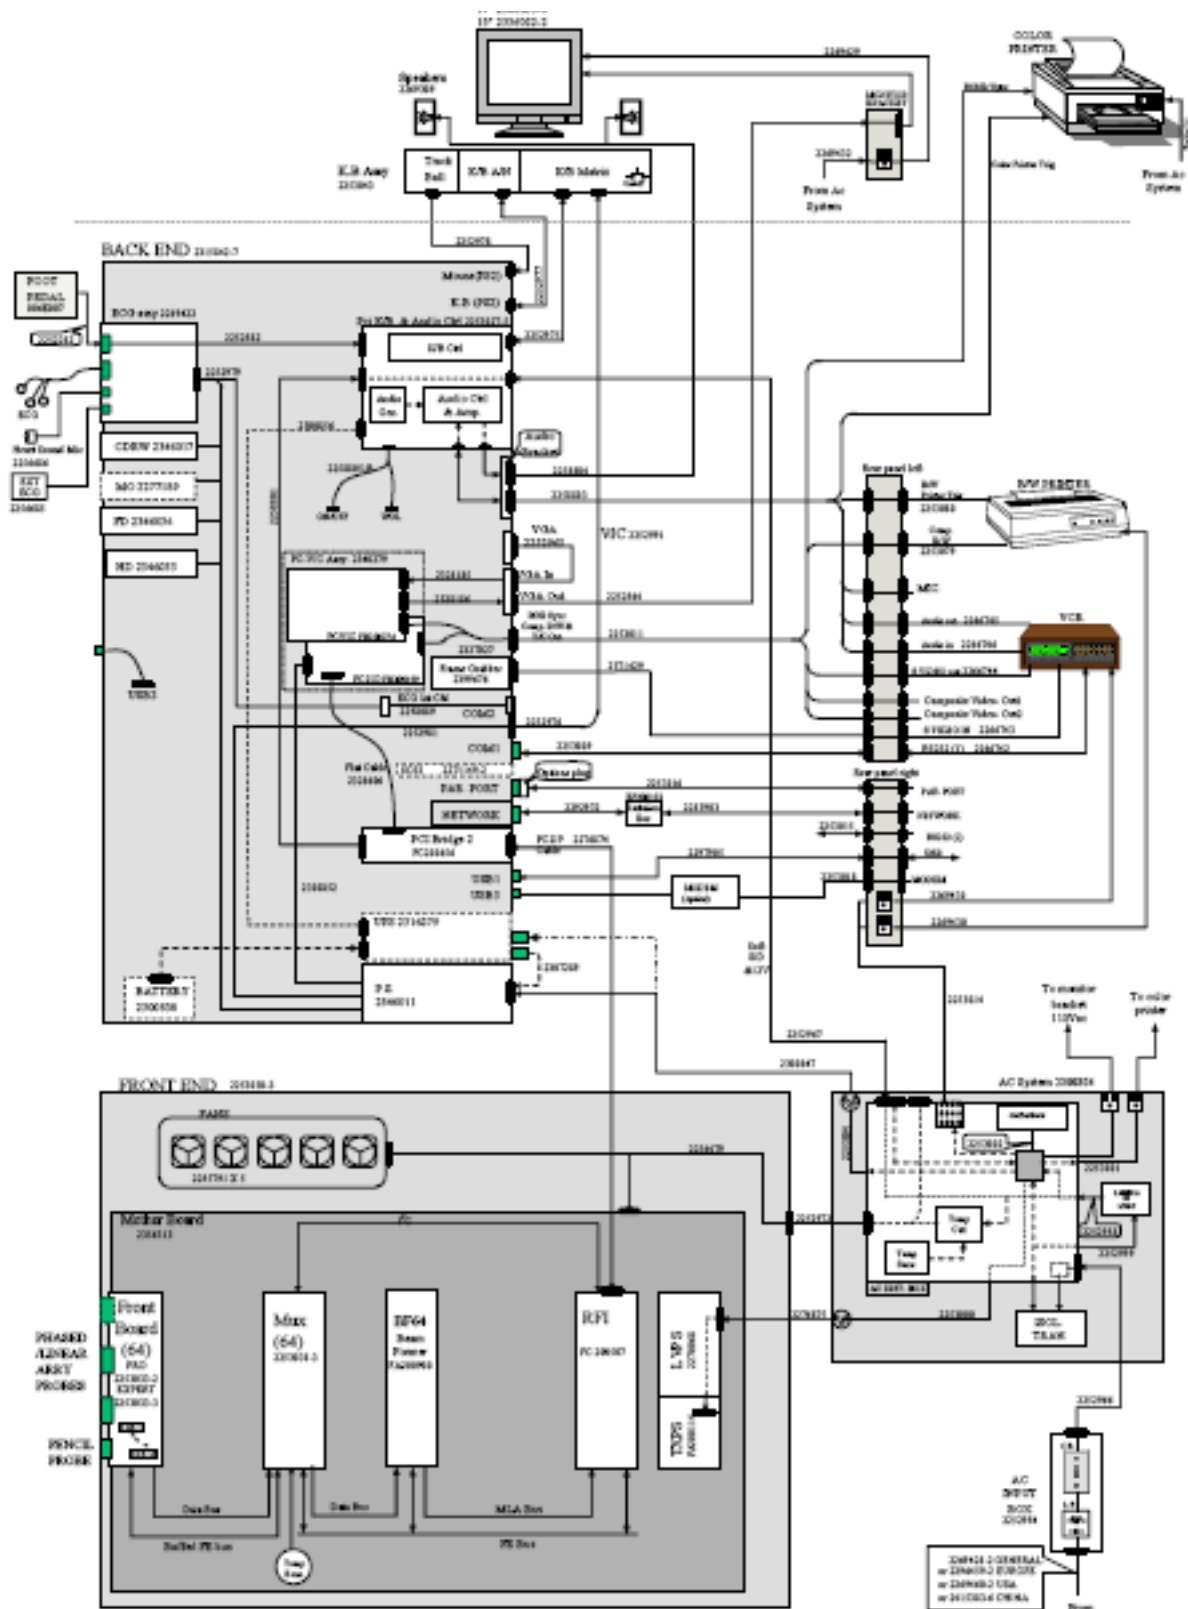

Figure 5-2 System Cabling Diagram - Vivid 3N Pro/Expert - RFI Configuration
- Figure 5-2 "System Cabling Diagram - Vivid 3N Pro/Expert - RFI Configuration" on page 5-5.